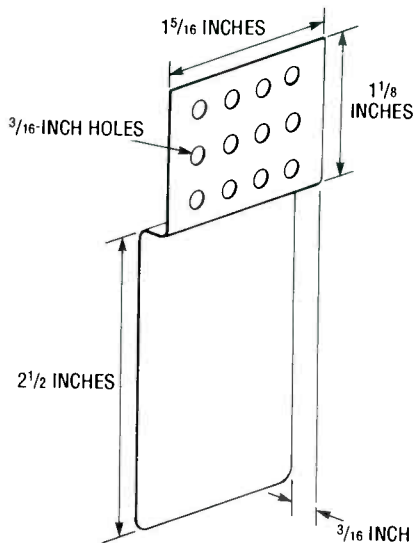

Fig. 1. Here are the construction details of the home-made belt clip, which was glued on the back of the battery so as to allow it to be hung from a belt.
Feed the legs of R1 through holes at terminals 0 and 1 on S1. (Use Figure 1 as a wiring guide.) Solder the leads in place and clip off any excess wire. Then insert and solder R2-R9. Wire the other five switches in the same way, using the appropriate resistor values for each.
Figure 1 shows details of the home-made belt clip, which was glued on the back of the battery to allow it to be hung from a belt. The clip was cut, using tin snips, from a piece of aluminum flashing material (any other thin sheet metal that may be available can also be used) and bent as shown. About a dozen 3/16-inch holes were drilled through the end that attaches to the battery in order to increase the holding power of the adhesive.
**Signal Comparisons.** Since a picture is worth a thousand words, let's compare the waveforms taken from a good modulator/demodulator arrangement to those taken from the *Baseband Video Switcher* described in this article. Figure 1 shows a video test signal known as a *multiburst* signal. That signal has several frequency bursts at 0.5, 1.0, 2.0, 3.0, 3.58, and 4.0 MHz. Note that the amplitude of the signal is diminished ever so slightly from the low-frequency burst (0.5 MHz) to the high-frequency burst (4.0 MHz).
Fig. 1. This video test signal, known as a multiburst, has several frequency bursts at 0.5, 1.0, 2.0, 3.0, 3.58 and 4.0 MHz. Note that amplitude of the signal is diminished ever so slightly from the low-frequency burst (0.5 MHz) to the high-frequency burst (4.0 MHz).